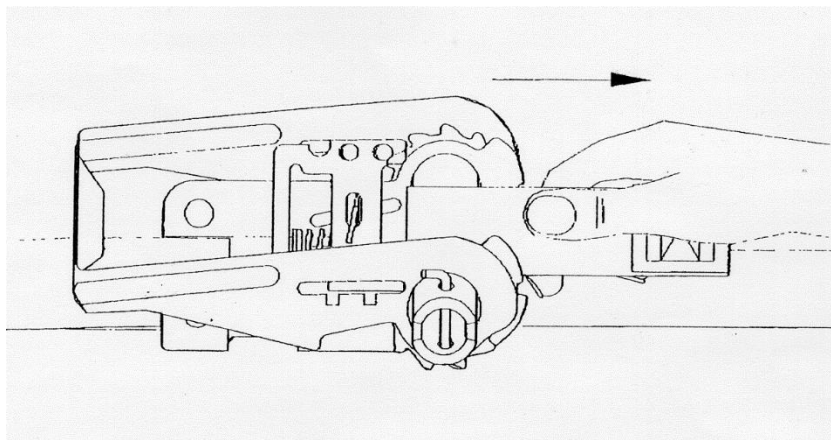

Fig. 1
- 5) Thread the free end of the attachment strap through the slot in the winder bar of the ratchet. Eliminate slack by pulling webbing through the winder bar until desired length is obtained. (see Fig. 1)